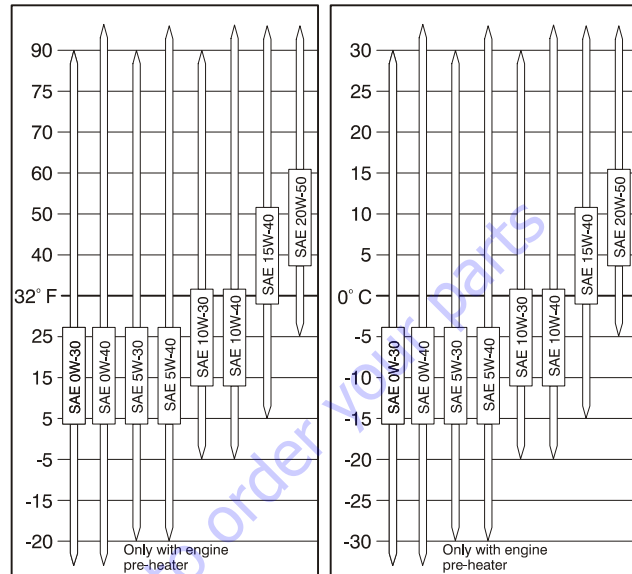

Figure 3-67. Engine Oil Viscosity
8. Pour in new engine oil. Refer to Section 1 for capacity and refer to Figure 3-67., Engine Oil Viscosity for the proper grade.